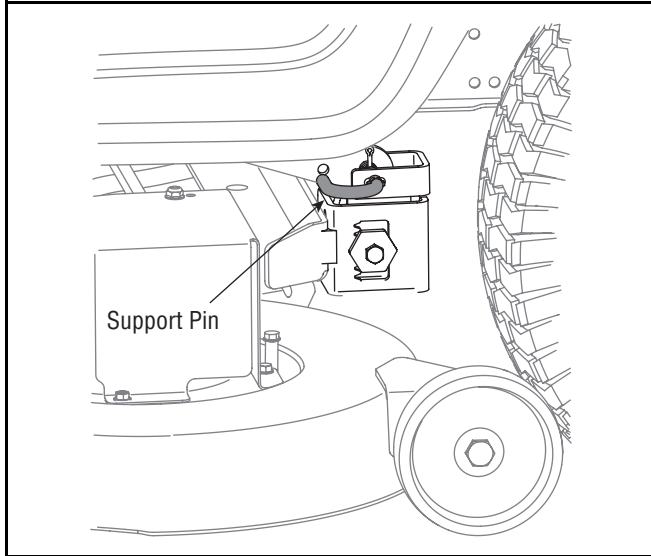

Figure 25
6. Pull the deck support pin outward to release the deck from the deck lift arm. See Figure 25.